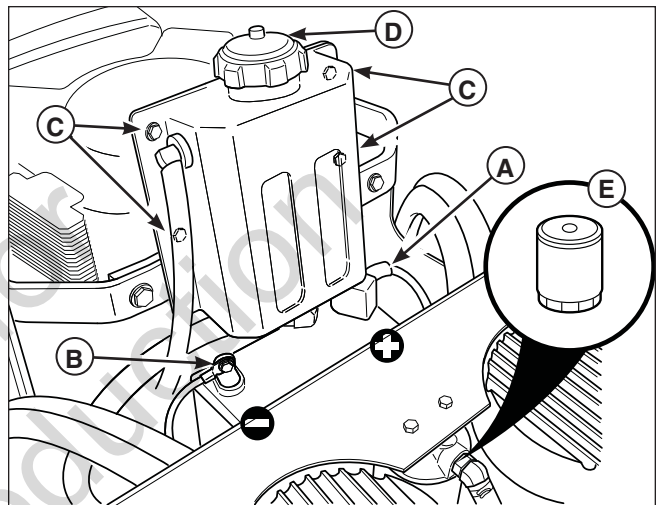

Figure 20. Battery Compartment
1. Locate the transmission oil filter (**A, Figure 20**).
1. Remove the hydraulic oil reservoir mounting hardware (**C, Figure 20**) and then move the reservoir (**D**) forward to expose the battery.